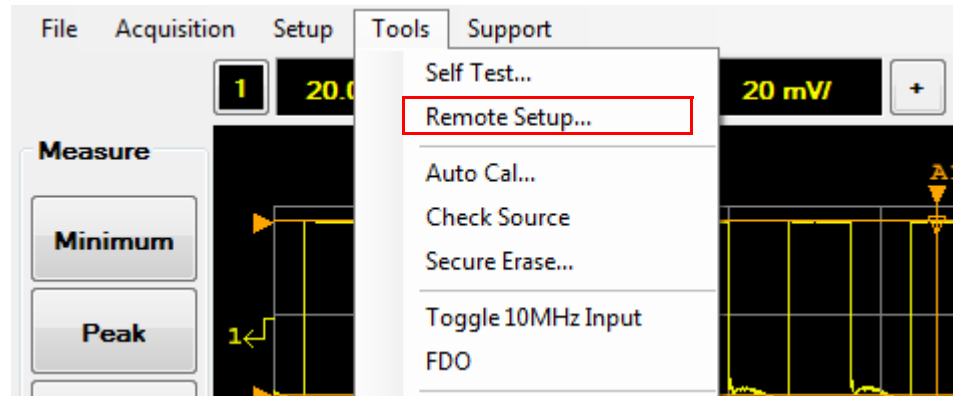

Figure 2-108 Remote Setup... selection in the Tools menu
- 1 Select **Tools > Remote Setup...** on the toolbar as shown in Figure 2-108.